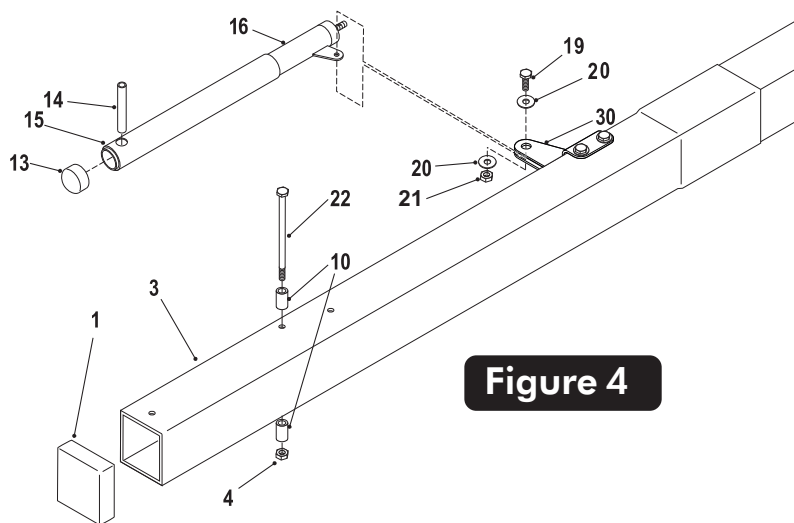

Figure 4
- Slide Actuator Sleeve (#15) over Actuator (#16) and place Actuator Cap (#13) on top. Slide Pivot Tube (#14) through hole near top of Actuator & Actuator Sleeve until equal amounts stick out through both sides of Actuator. See **Figure 4**.
- Lay Pole Assembly on its side on two padded saw horses. Slide tab on Actuator (#16) between Post Ears (#30) and secure using one bolt (#19), two washers (#20) and one lock nut (#4). See Figure 4. Tighten bolts tight.
- Secure two stop spacers (#10) to pole, as shown in Figure 4, using one hex bolt (#22) and one lock nut (#4).